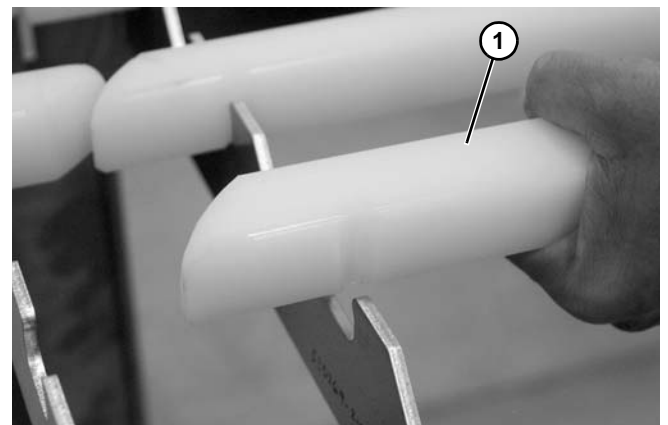

Figure 22
5. Remove wear strips (**Figure 22, item 1**).